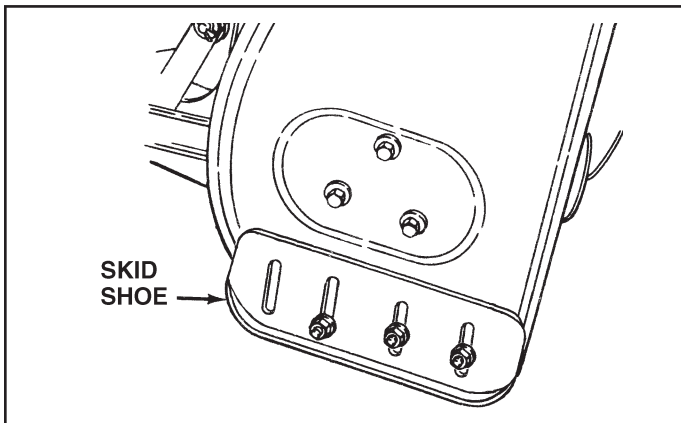

FIGURE 59
CHECK SCRAPER AND SHOES FOR WEAR (Refer to figures 59 and 60 on page 27)
- Raise the snow thrower off the ground and place a block under each end of the scraper plate. Loosen the six hex nuts securing the skid shoes to the housing. Adjust the skid shoes up or down and retighten the nuts securely. Adjust both skid shoes to the same height to keep the housing and the scraper plate level. See figure 59.